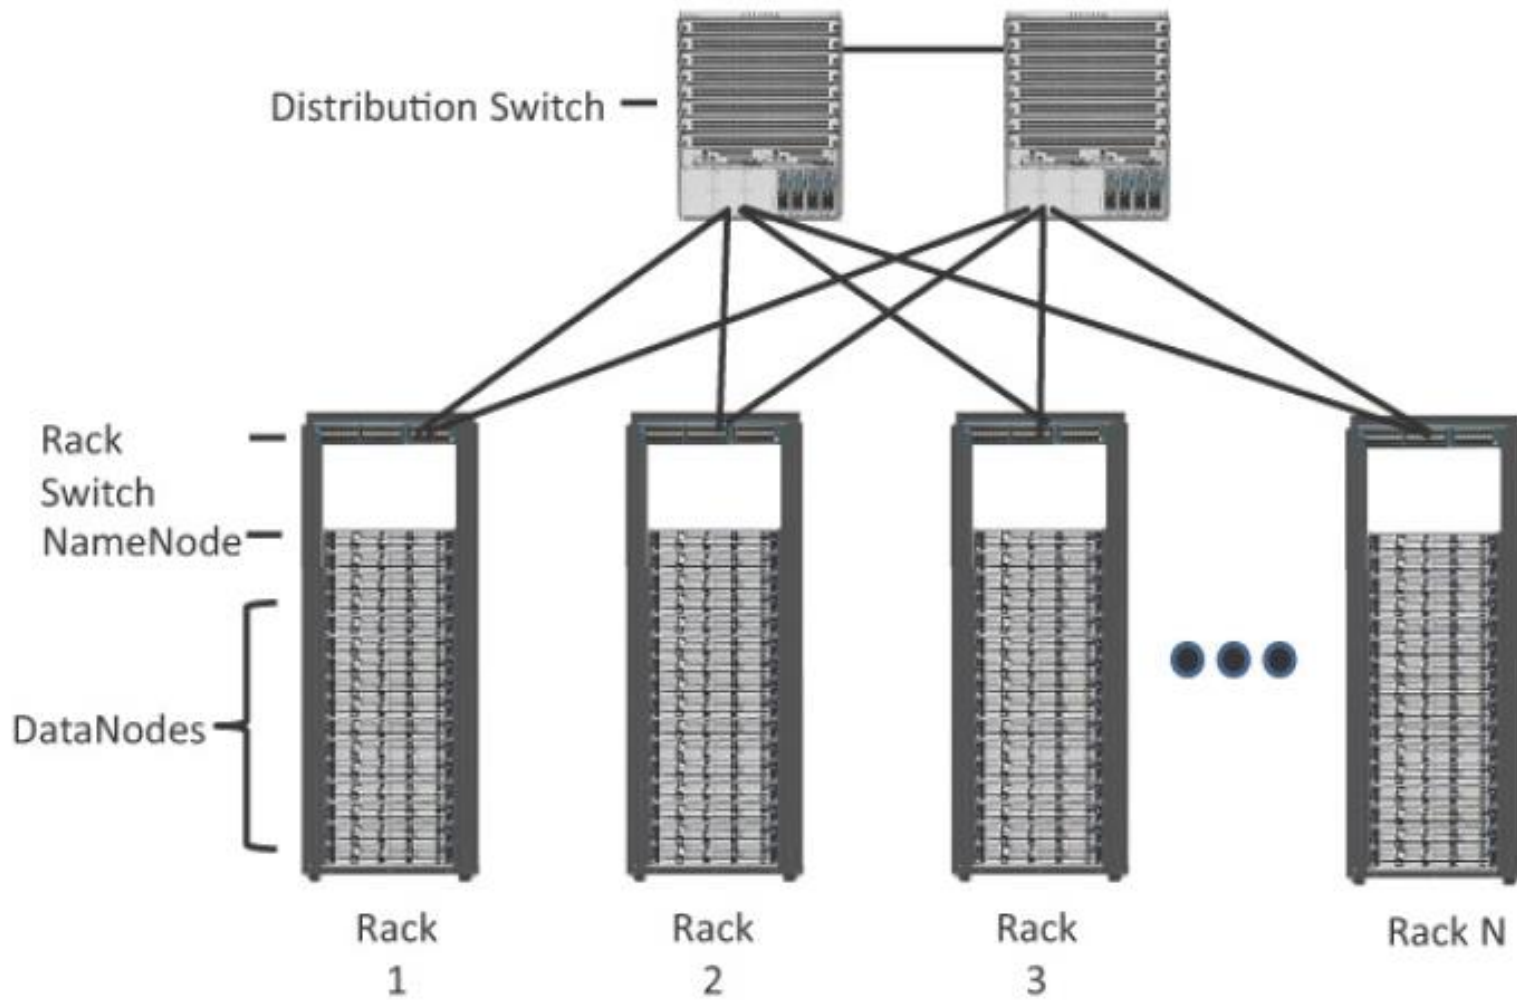

Figure 7.8 : Distributed Hadoop Cluster
- For HDFS, this capability is handled by specialized nodes in the cluster, including *NameNodes* and *DataNodes* (see figure 7.8):